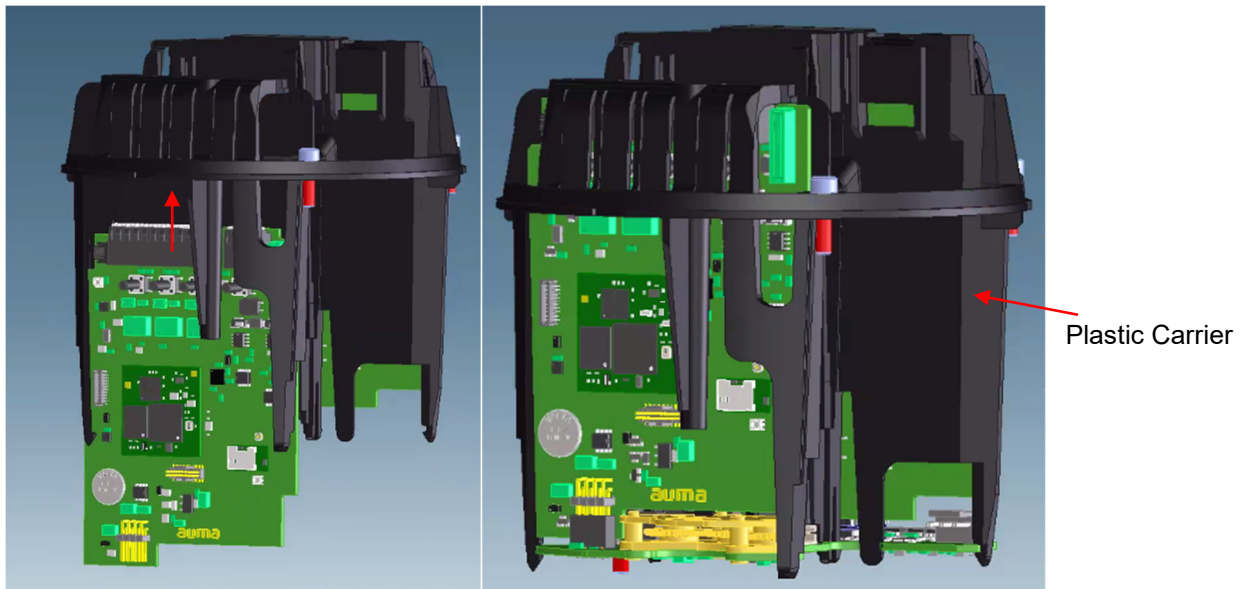

Figure 1: Integration of the Module Z123.664 in a plastic carrier
1. The module must be pushed completely into a plastic carrier for a fixed position (see Figure 1)